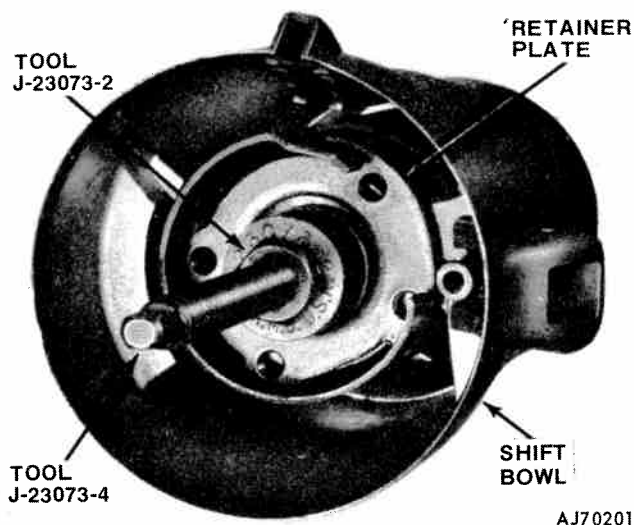

Fig. 11-28 Shift Tube Installer Seated in Tube
(1) Apply a thin coat of lithium grease to all friction surfaces.
(2) Place shift bowl onto column.
(3) Install wave washer and retainer plate into column.
(4) Carefully install shift tube into lower end of mast jacket. Align spline on tube with keyway in shift bowl.
(5) Insert Shift Tube Installer Tool J-23073-2 and -4 into shift tube (fig. 11-28). Spring-loaded lower foot must engage tube inner shoulder and guide should seat in tube. Tighten spring tension nut to snug fit.